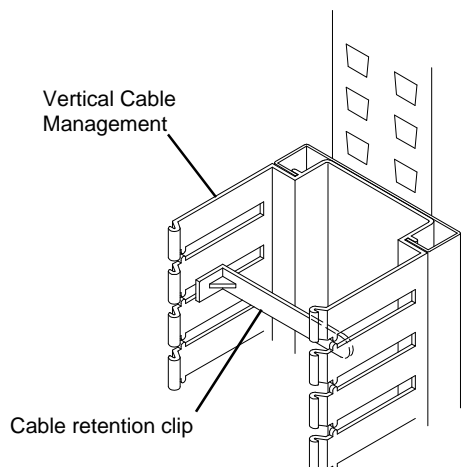

Figure 5
5. To install the **Cover**, hook one side of the cover over the flanges on one side of the Cable Management. Pull the Cover over and hook it onto the opposite flanges. See **figure 5**.